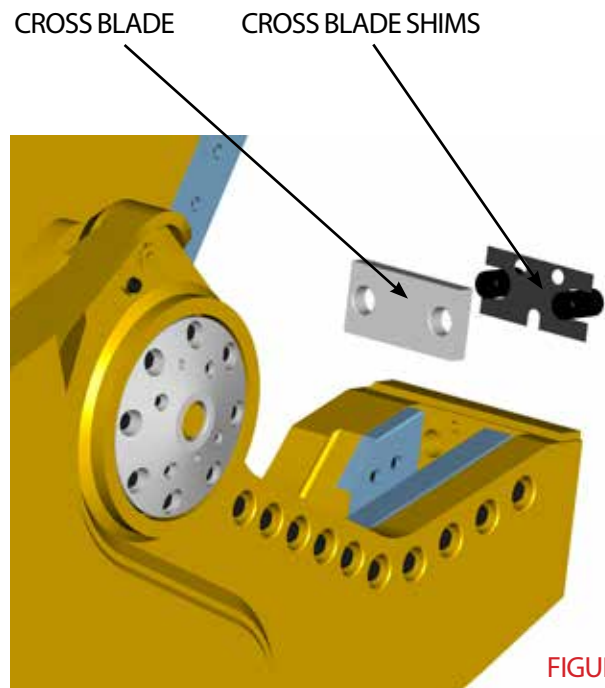

FIGURE 5-12
7. If there were shims behind the cross blade when it was removed, make sure to reinstall them (see Figure 5-12). Tap the face of the blade with a soft-faced mallet to make sure that it seats firmly.